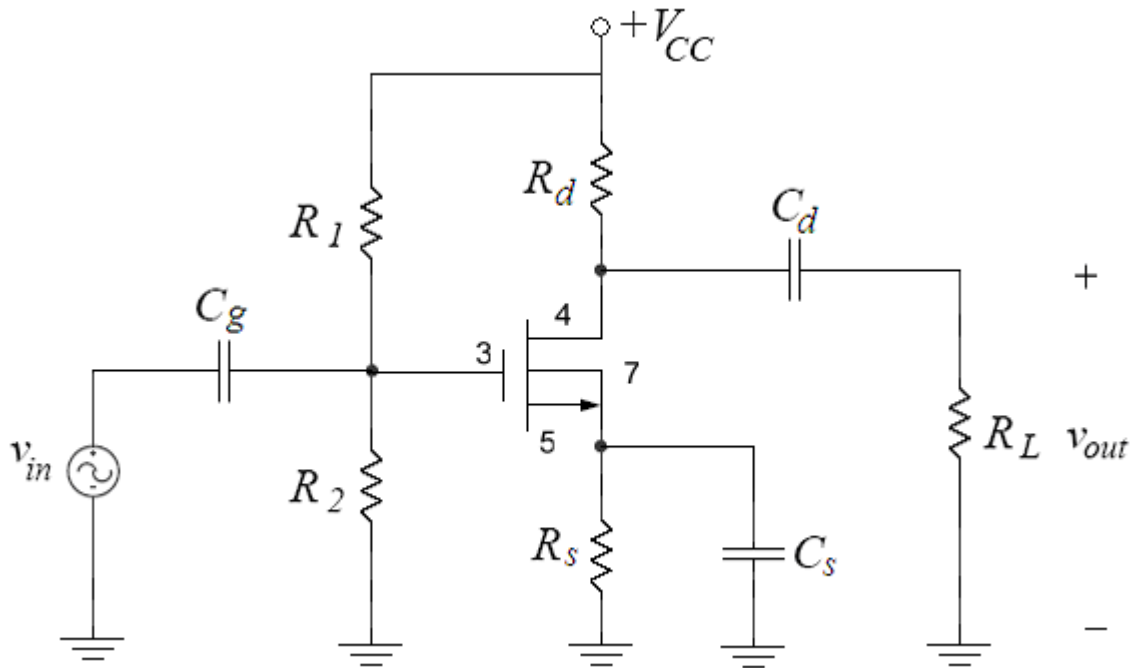
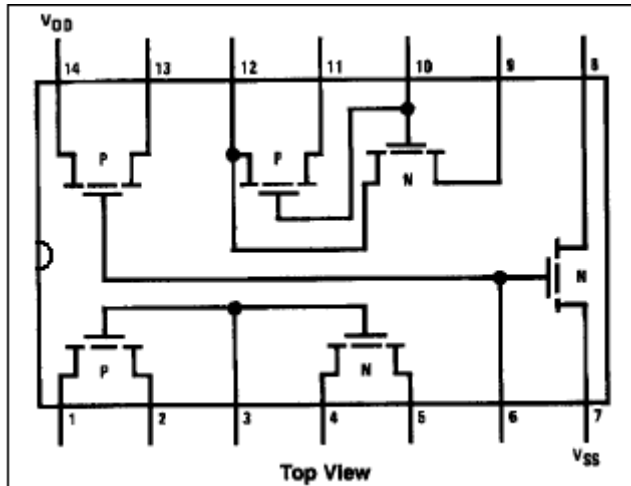

figure1
figure5
The common-source amplifier with a NMOS transistor is shown in Figure 1. The input and output voltage signals are coupled to and from the amplifier with the use of coupling capacitors. The biasing is done by fixing the gate voltage with a voltage divider and also by using a source resistor R_S . The source resistor gives negative feedback and stabilizes the bias current as a function of temperature variations and transistor characteristics.
The overall voltage gain of the common source amplifier in Fig.1 is ;
In case the signal source has an internal resistance R_{sig} as shown in Fig.3(not shown in Fig.1), the value of the overall amplification will become,
The input impedance of the amplifier in Fig.1 is equal to $R_{in} = R_G = R_1 \parallel R_2$ and the output impedance $R_{out} = R_D \parallel r_o$. For a voltage amplifier one likes to keep the input impedance large and the output impedance small. For the common-source amplifier, the input impedance is large. However, the output impedance is also large. It is for this reason that by adding a load resistor R_L at the output thus output impedance becomes $R_{out} = R_D \parallel r_o$, the output voltage and thus the amplification reduces. In order to obtain a small output
In preliminary work you will design single stage MOSFET amplifier, which has the circuit topology in Fig.1, using the one of the NMOS in CD4007C Chip. The Pin Diagram of the CD4007 Chip is in Fig.5. The DC supply voltage, the load resistance, and the coupling and bypass capacitor capacitances are given as:
For the circuit shown in Fig.1, find values for R_1 , R_2 , R_D , and R_S such that the MOSFET is biased with an I_{DS} of approximately $75\mu\text{A}$, a V_{GS} of 2V , a V_D value to allow for maximum signal swing, and a V_S value to allow for the given bias conditions. Make sure the MOSFET is in saturation. (**Hint:** (Use only Standard Resistor Values less than or equal to $100\text{k}\Omega$. Make sure to allow for proper signal swing by adjusting V_S appropriately.)
1. For the circuit of Fig.1, use the values for R_1 , R_2 , R_D , and R_S . For signal frequencies of interest we can assume that the capacitors act as a short circuit.
- a. Draw the small signal AC equivalent of the circuit in Fig.1.
- a. Form your circuit in Fig.1 in Pspice without the load resistor R_L and coupling capacitor C_d . For the transistor you need to add the CD4007 Library.
- b. Bias simulation. Simulate the circuit of Figure 1 (without the load resistor R_L). Do a BIAS simulation and find the **DC voltages at each node and current I_D** . Compare the results with the one you calculated in preliminary work part1.
You will be using the CD4007 MOSFET array for this experiment. This array contains three NMOS and three PMOS transistors as shown in Fig.5. Again, the key point to remember is that the bulk (or substrates) of all NMOS transistors are connected to the VSS (pin 7) and all PMOS substrates are connected to VDD (pin 14). When using this array pin 7 should be connected to the most negative supply voltage or to the source of the transistor. Pin 14 is the substrate of the PMOS and must be connected to the most positive supply voltage in the circuit!
3. Reconstruct the amplifier in Fig.1. Increase the amplitude of the input signal and observe the output signal. When does the output signal start to distort? What is the maximum output voltage swing before considerable distortion occurs?